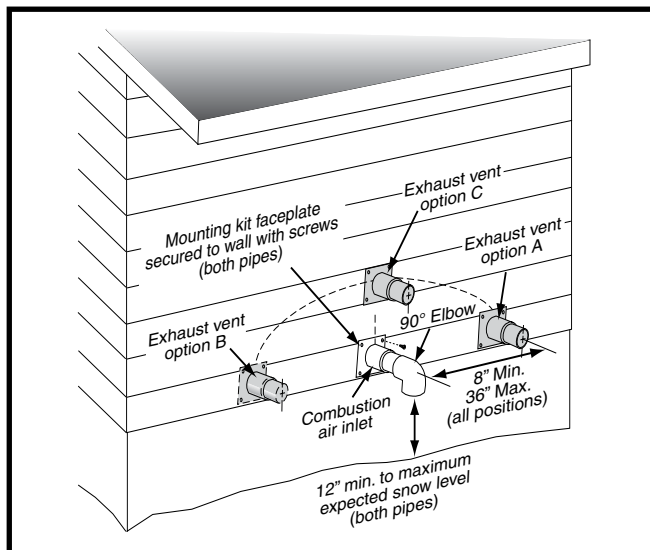
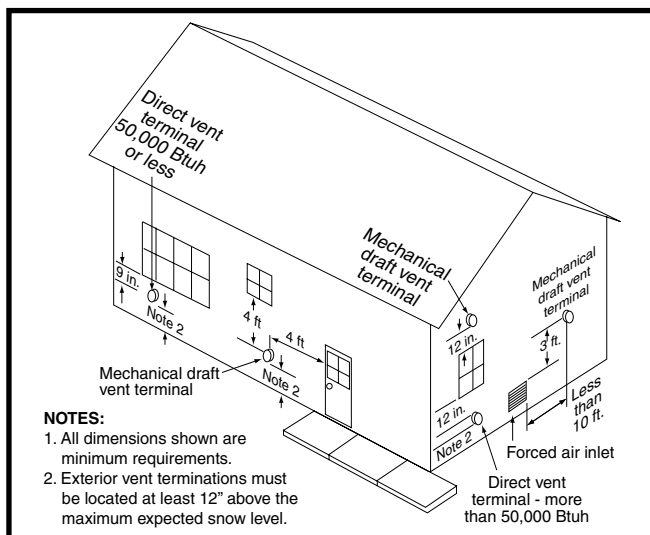
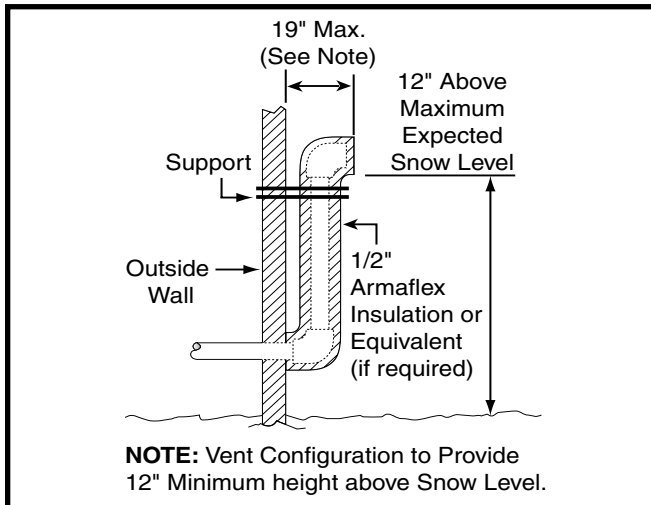

Figure 7. Inlet & Exhaust Pipe Clearances
Figure 8. Vent Locations
Figure 9. Alternate Horizontal Vent Installation
- Vent and combustion air intake terminations shall be installed as depicted in Figure 7 & Figure 8 and in accordance with these instructions:
- All minimum clearances must be maintained to protect building materials from degradation by flue gases as shown in Figure 7.
- When the vent pipe must exit an exterior wall close to the grade or expected snow level where it is not possible to obtain clearances shown in Figure 7, a riser may be provided as shown in Figure 9. Insulation is required to prevent freezing of this section of pipe. See Table 2 \(page 14\) for vent freezing protection.